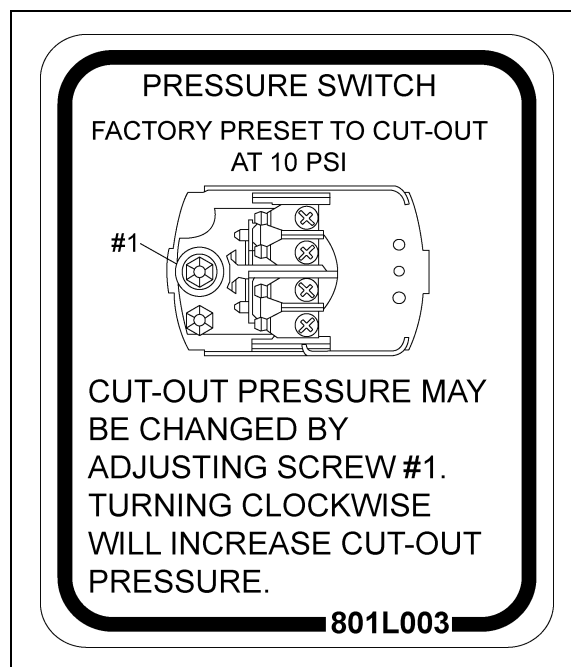

Figure 10A
**NOTE:** If the pressure limit is set below 5 PSI, the switch may not reset and allow the air transfer to run. (See Figure 10A.)